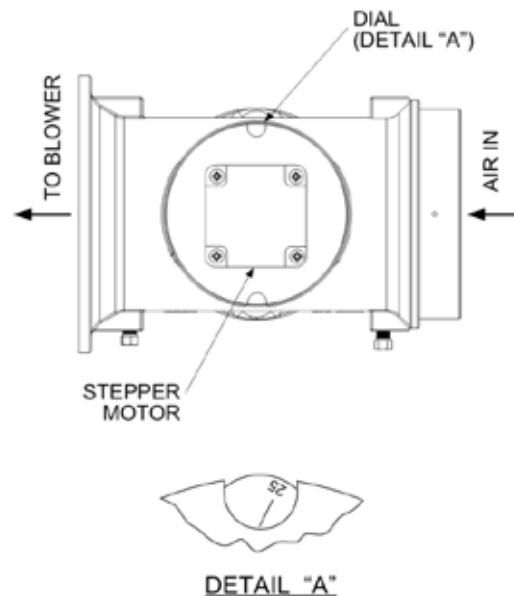

Figure 3-6. Air/Fuel Valve In Ignition Position
- The Air/Fuel Valve rotates to the low-fire ignition position and closes the ignition switch. The dial on the Air/Fuel Valve (Figure 3-6) will read between 25 and 35 to indicate that the valve is in the low-fire position.